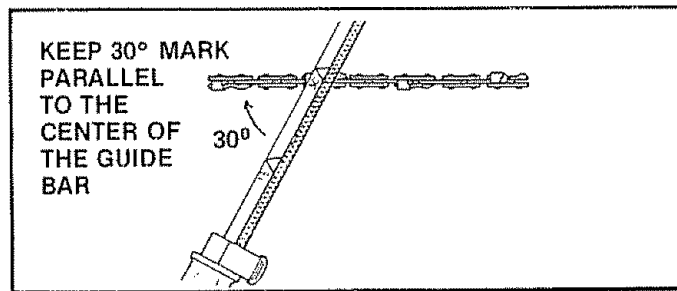

Figure 37
- b) Hold the file holder level with the 30° guide mark parallel to the center line of the bar. Figure 37.